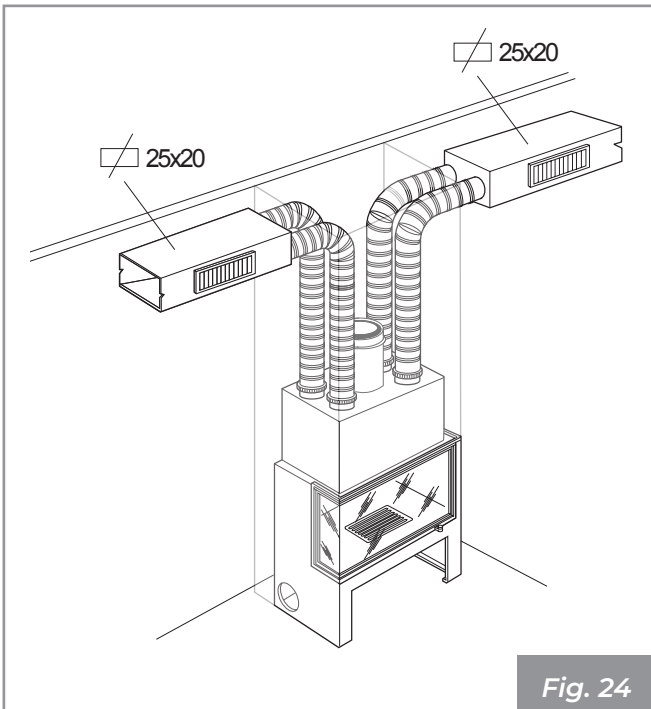

Fig. 24
- Smooth metal pipe - length up to 14 m on double duct **(Fig. 24)**.